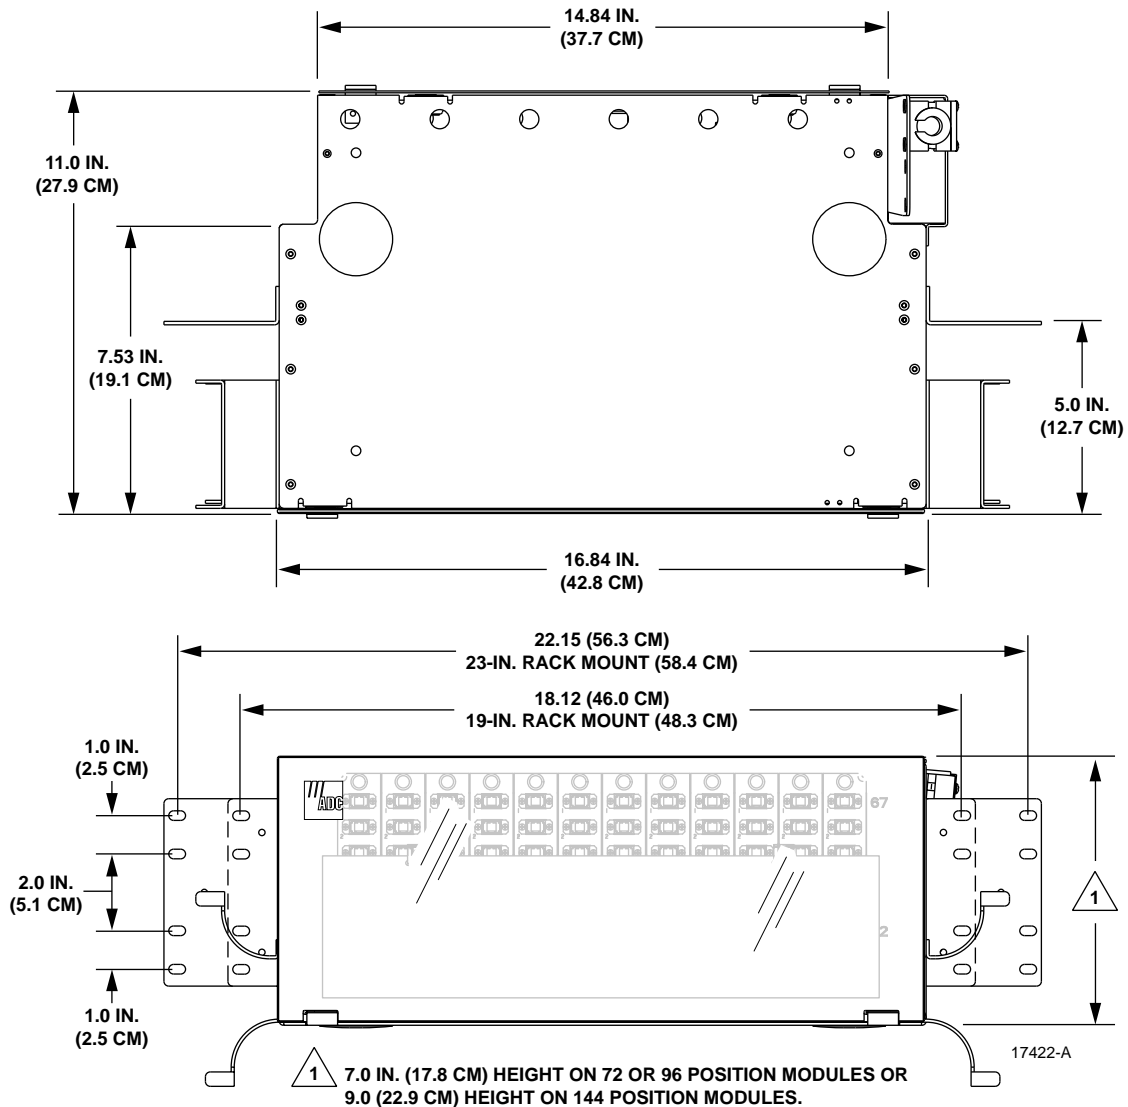
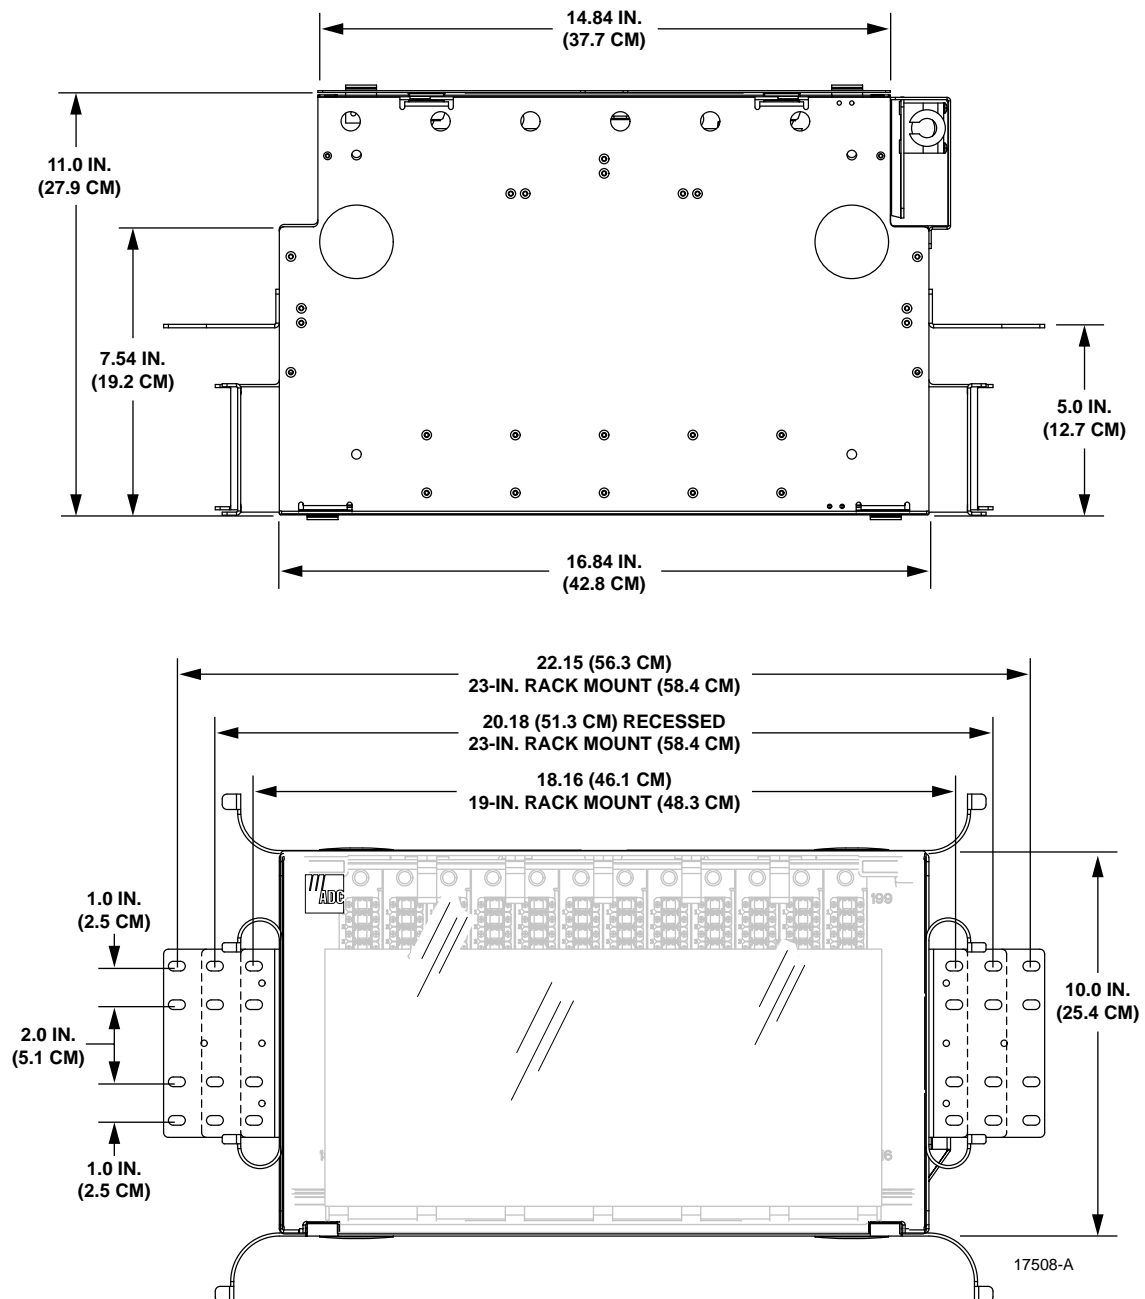

Figure 6. Dimensions for 7-Inch and 9-Inch Modules
Figure 7. Dimensions for 10-Inch Module
Table 1 lists specifications. Figure 6 shows dimensions for the 7- and 9-inch modules. Figure 7 shows dimensions for the 10-inch module.
1. Determine the mounting location and rack width. For a 19-inch rack, remove the two mounting brackets and re-install them using the 19-inch orientation (refer to Figure 6 for 7- and 9-inch modules or Figure 7 for the 10-inch module). For a 23-inch rack, install the chassis with the mounting brackets positioned as shipped.